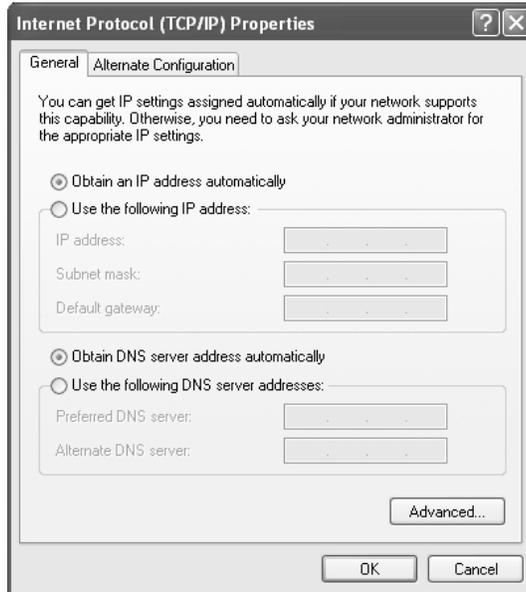

Figure 107: Internet Protocol Properties
6. Select the Properties button. The Internet Protocol Properties window appears. See Figure 107.